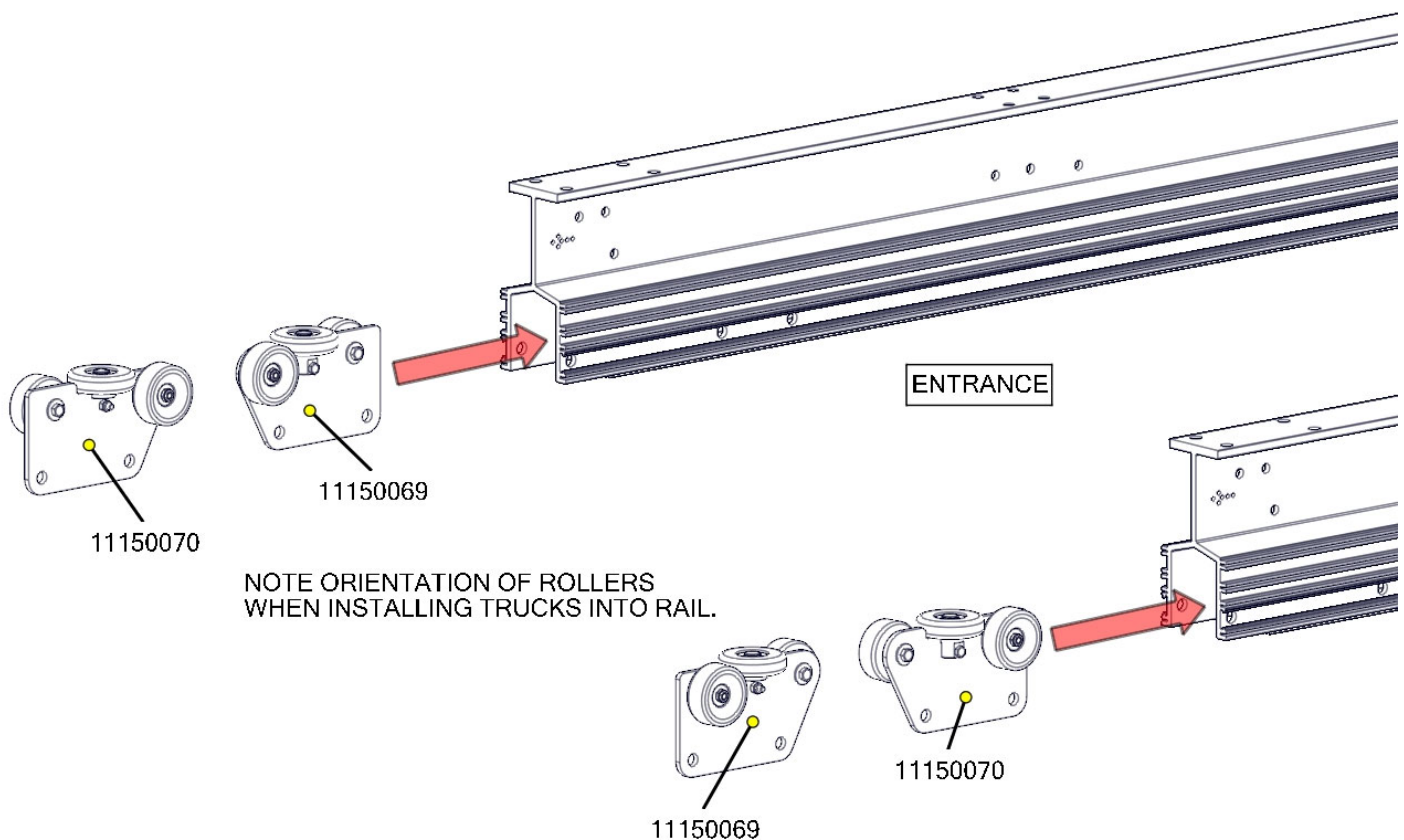

Figure 60 - Install Trucks into Main Rails
When installing the bridge trucks into the rails, make sure the rollers are oriented with the horizontal rollers facing towards the ends of the main rails (See Figure 60).
- Install the bridge trucks inside the rails (see Figure 60). Make sure the trucks are oriented with the horizontal rollers away from each other (facing the ends of the main rails).